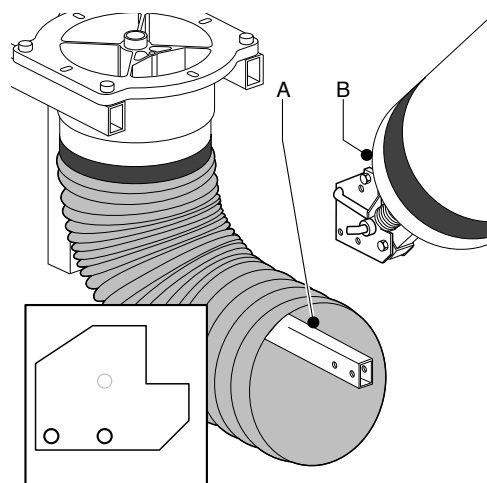

Fig. 6
Put another rubber band on the base of the arm. Use (2) 1.75" bolts with nuts to mount the arm (Fig. 6B) to the hanging adapter (Fig. 6A), using both mounting holes as shown in the inset of Figure 6.